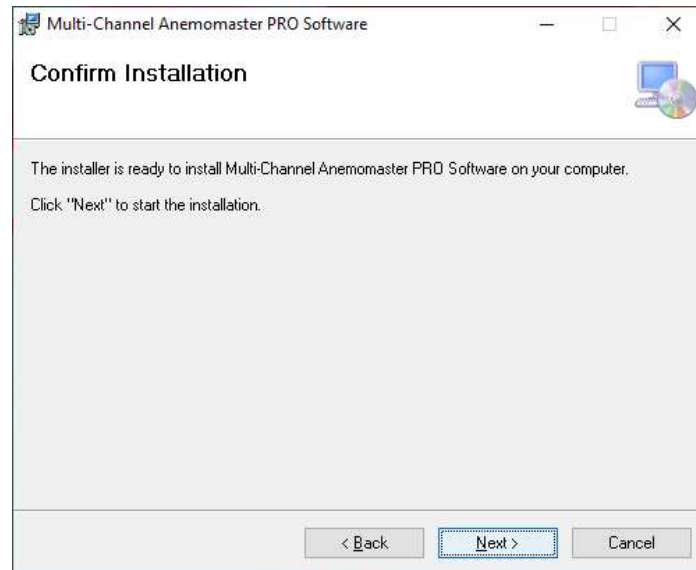

Figure 2-3 Confirm Installation Screen
3) Click the **Next** button to display Figure 2-3 below.